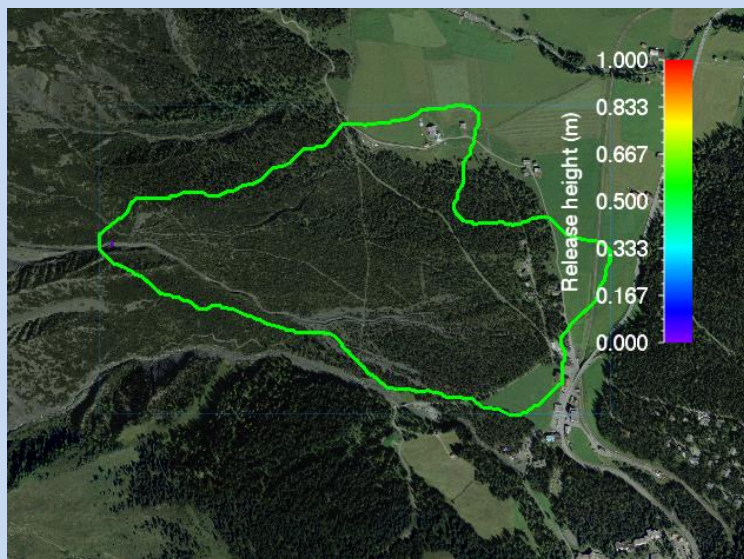

Figure 3-49: Input file with optimized calculation domain (envelope shapefile)
- Use *Input* → *Calculation Domain...* → *Load Existing Domain* to load your envelope shapefile as a new calculation domain, see Figure 3-49 below.